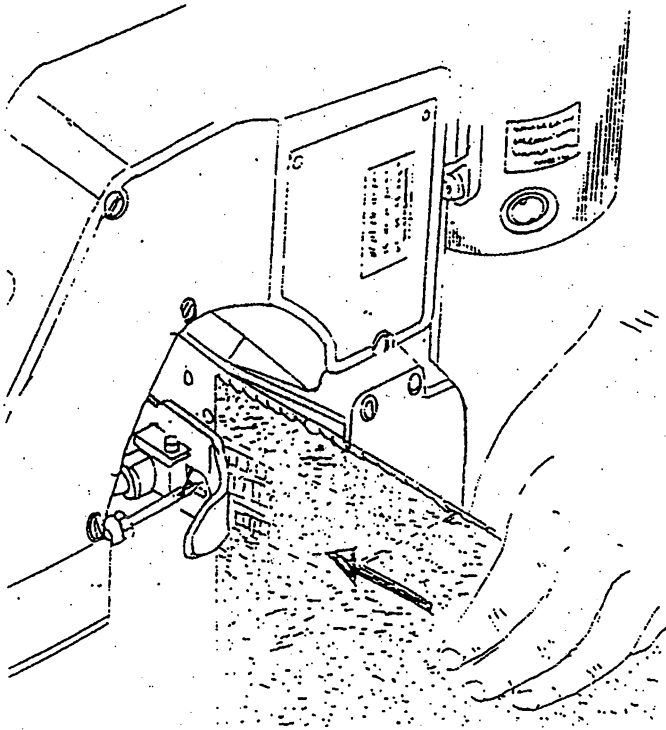

Fig.08
B) Sewing Operation. (See also Fig. 08 & Fig. 08-1)